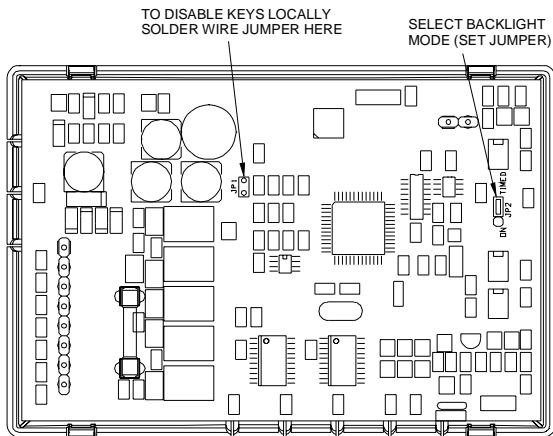

Figure 6
- 1) To configure the display backlight to turn on when a key is pressed, then back off 30 seconds later, set the “JP2” (Select Backlight Mode) jumper to the “TIMED” position (between the top and middle pin on the connector) - *See Figure 6.*
- 2) To configure the display backlight to always be on, set the “JP2” (Select Backlight Mode) jumper to the “ON” position (between the middle and bottom pin on the connector) - *See Figure 6.*
- 3) To configure the display backlight to never come on (always off), remove the “JP2” (Select Backlight Mode) jumper from the connector - *See Figure 6.*
The keys on the thermostat can be disabled to prevent anyone from controlling the thermostat locally. To disable the keys, solder a wire jumper across “JP1” (two holes on the circuit board) - *See Figure 6.*